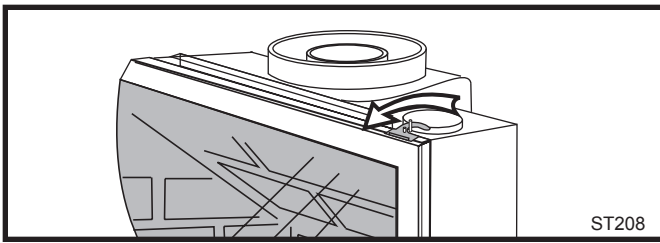

Fig. 64 Release the latches to release the glass frame.
2. Lift the Stove Front up and then swing the bottom out to disengage it from the heater shell. (Fig. 64)
To ensure that the stove is operating properly, check the flames periodically to confirm that they match Figure 64. The flames will be blue during the first 15-20 minutes of operation, and will gradually turn to yellow after that.